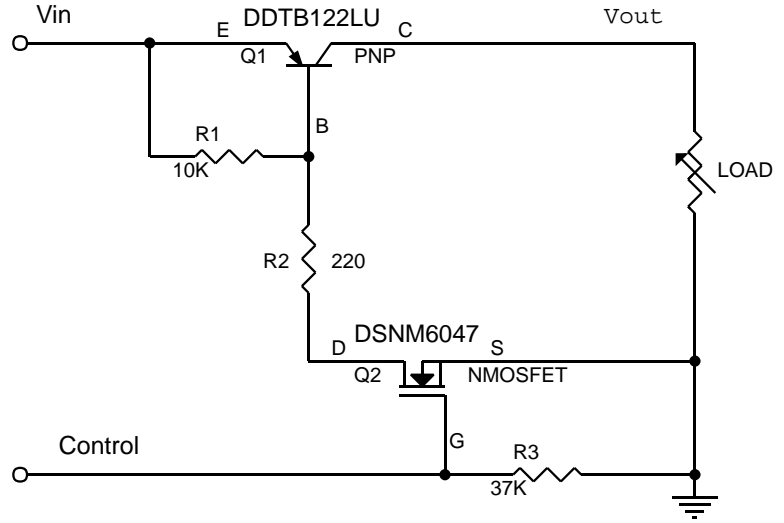
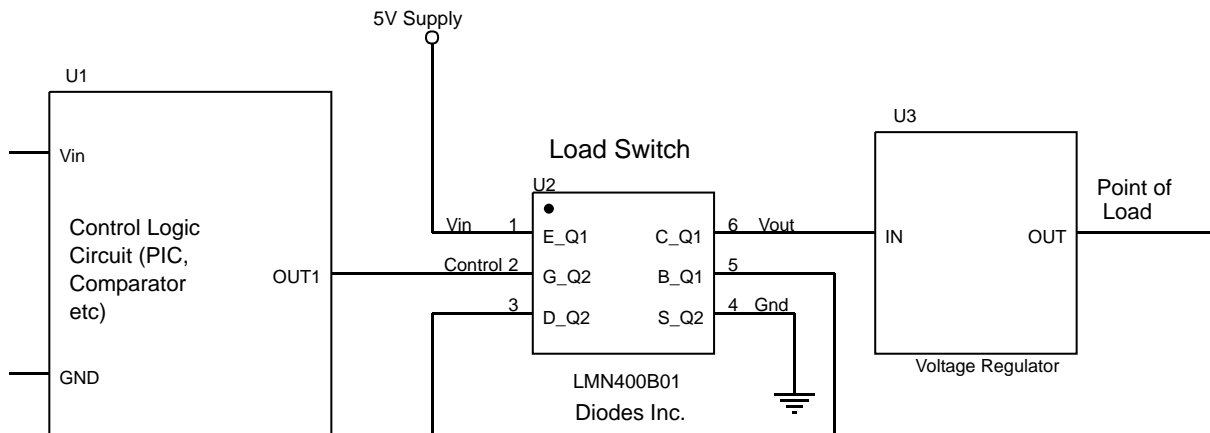

Fig 20 : Circuit Diagram
Fig 21
- PNP Transistor (DDTB122LU) and N-MOSFET (DSNM6047) with gate pull-down resistor integrated as one in LMN400B01 can be used as a discrete entity for general application or as an integrated circuit to function as a Load Switch. When it is used as the latter as shown in Fig 20, various input voltage sources can be used as long as it does not exceed the maximum ratings of the device. These devices are designed to deliver continuous output load current up to a maximum of 400 mA. The MOSFET Switch draws no current, hence loading of control circuit is prevented. Care must be taken for higher level of dissipation while designing for higher load conditions. These devices provide high power and also consumes less space. The product mainly helps in optimizing power usage, thereby conserving battery life in a controlled load system like portable battery powered applications. (Please see Fig. 21 for one example of a typical application circuit used in conjunction with voltage regulator as a part of power management system)